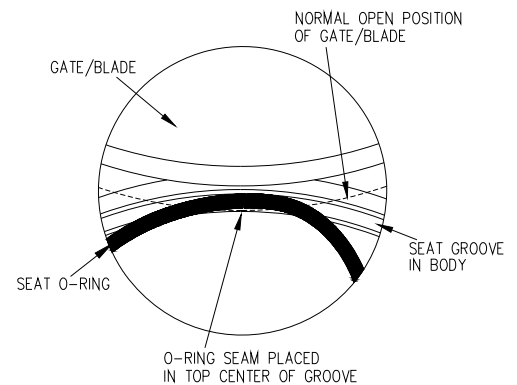

Figure 1
- B. Remove the yoke bolts. With a hoist or come-along winch, lift the yoke assembly and blade till the entire seat is exposed as shown in figure 1. Do not remove the assembly past the packing, unless the packing will also be changed.